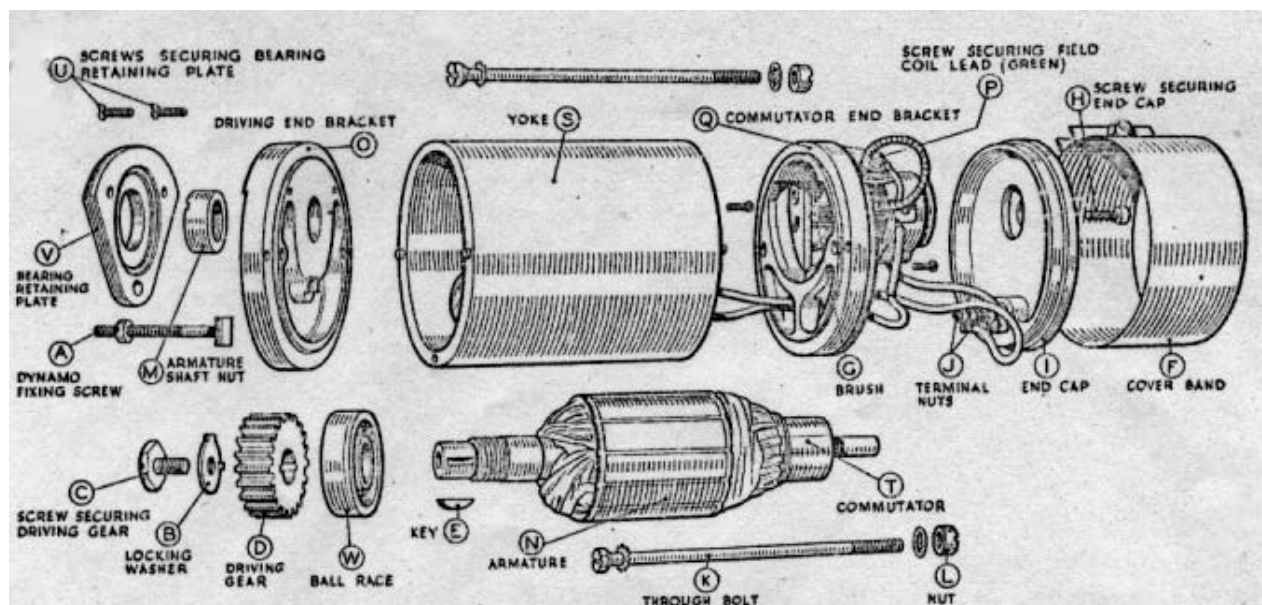

Fig. 59. Exploded view of dynamo
When replacing, slide the dynamo through the band clip so that fixing screw (A, Fig 59) passes through its hole in the end cover and the gears mesh correctly. Tighten the end nut and the band clip fixing screws and remake the connections to the dynamo terminals
- Bend back the tag on the washer (B, Fig. 59) locking the screw (C) securing the driving gear (D) and remove the screw. Withdraw the gear from the dynamo shaft by carefully levering it off by means of an extractor. Remove the key (E) from the shaft.
- Remove the cover band (F), hold back the brush spring and lift the brushes (G) from their holders.
- Take the screw (H), with spring washer, from the centre of the black moulded end cap (I). Draw the cap away from the end bracket, take off nuts (J) and spring washers, and lift the connections off the terminals.
- Unscrew and remove from the driving end bracket, the two bolts (K) securing the driving end bracket (O) and commutator end bracket (Q) to the dynamo yoke (S). Hold the nuts (L) at the commutator end whilst unscrewing the bolts, and take care not to lose the nuts.
- Draw the armature (N) complete with end bracket (O) out of the yoke.
- Unscrew the nut (M) from the driving end of the dynamo shaft and remove the armature from the end bracket, using a hide or wooden mallet.
- Take out the screw (P) securing the green field coil lead with the yellow sleeve to commutator end bracket and remove the end bracket (Q), withdrawing the connectors through the slot in the insulating plate.
The ball bearing (W, Fig. 59) at the driving end is replaced as follows:-